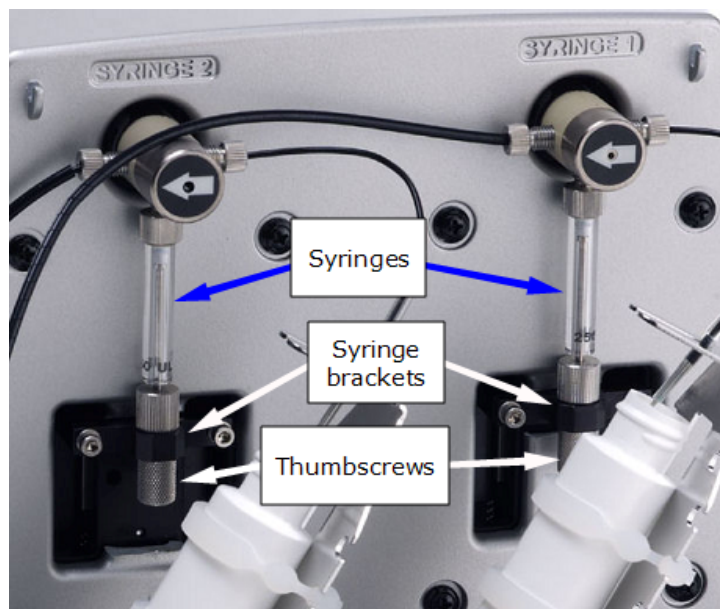

Figure 2-5: Syringe installation
13. Install the syringes, referring to Figure 2-5 on page 16: